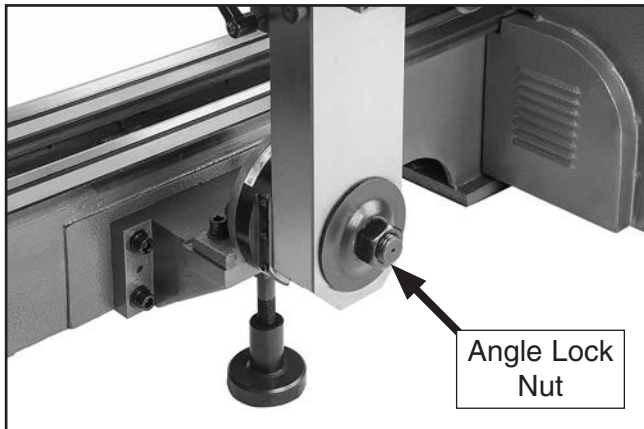

Figure 86. Headstock tilt controls.
2. Support headstock with one hand, then loosen headstock center bolt and angle lock nut (see **Figure 86**).